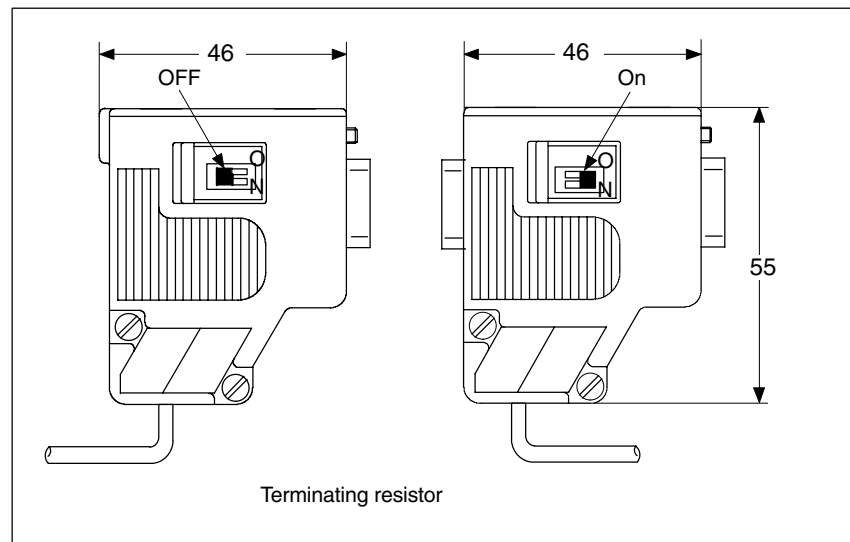

Fig. 2-3 MPI connector
2. The bus line must be terminated at **both ends**. To do this, enable the terminating resistor in the MPI connector of the first and last node and disable the remaining terminating resistors (see figure 2-3).